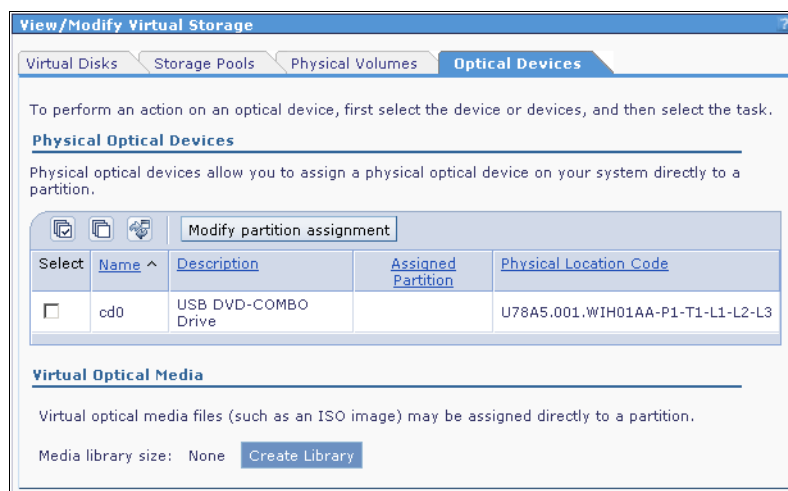

Figure 6-4 Media library - create library
4. Click **Create Library**. See Figure 6-4.